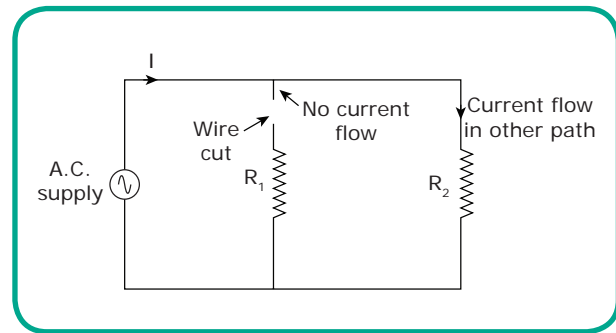

Figure 1.23
4. There will be current flow in other paths, even if any of the paths is disconnected. It is shown in Figure 1.23